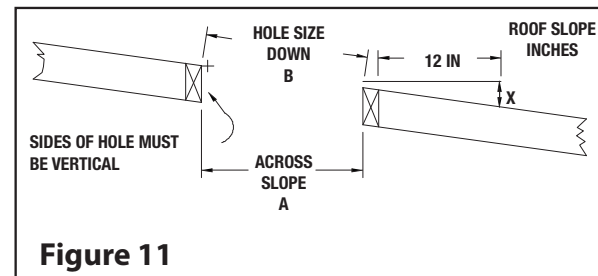

Figure 11
Step 1: Locate the chimney in a convenient location as near as possible to the appliance outlet. Cut and frame an opening in the roof for the support (see Table 5). The sides of this hole must be vertical (see Figure 11).